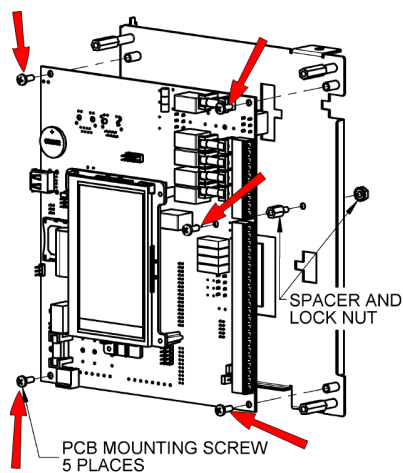
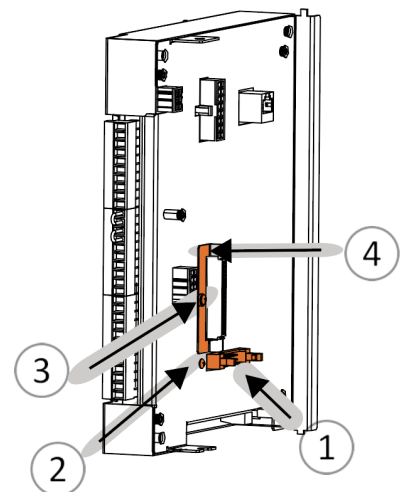

Figure 1
Figure 2
2. Remove the five screws off the original board (*Figure 1*).
- » Remove the two screws (2) from the back of the control board before removing the back plate and the CBI connector (1) from the original board.
- » Remove the screw (3) and retaining bracket (4) that secures the other connector to the back of the CX board (see *Figure 2*).